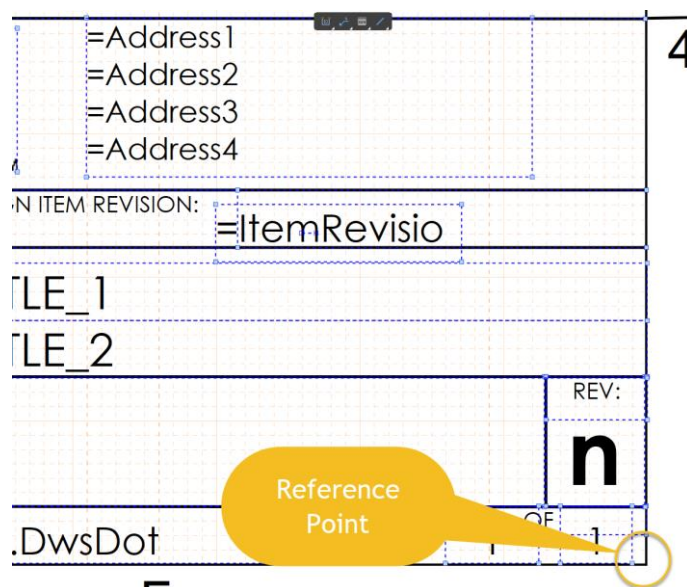

Figure 9. Reference point for Copy command
- After activating the copy command, your cursor will change, allowing you to choose the Reference Point. Select the lower right corner as Reference Point for the Copy command, Figure 9.